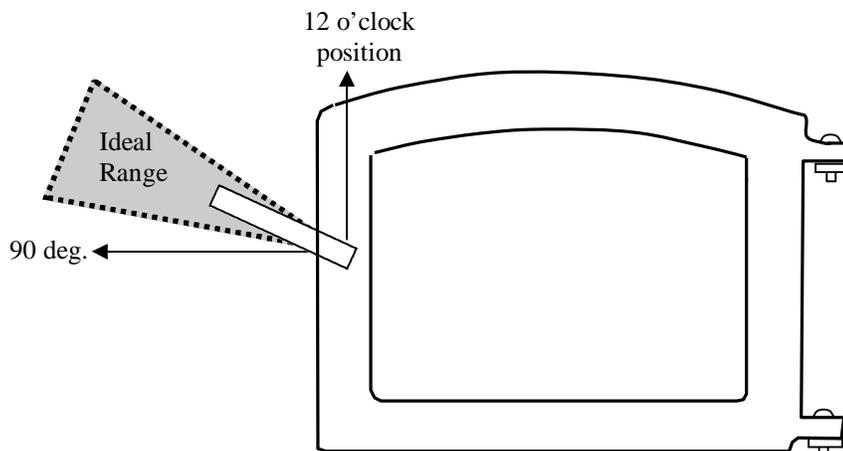

Figure 1
2. The handle of the door should come to a snug fit approximately 50-75 degrees down from the 12 o'clock position. (figure 1)
6. Check to see how the door latches. Repeat the adjustment if necessary to achieve the ideal range (figure 1).